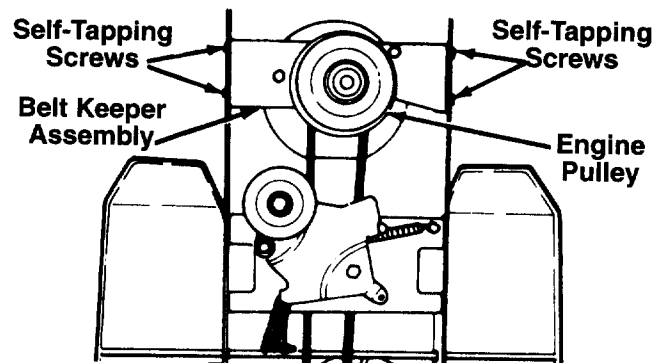

FIGURE 26.
4. Remove the four self-tapping screws which hold the belt keeper assembly to the frame at the engine pulley. Push the belt keeper assembly forward, out of the way. See figure 26.